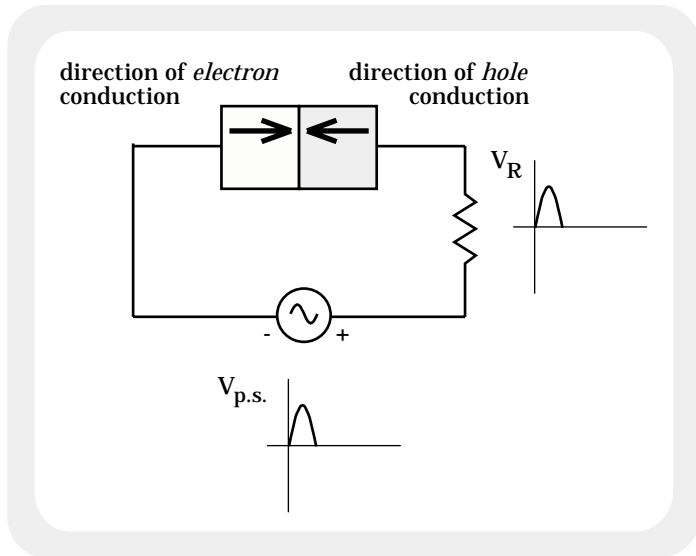

FIGURE 21.5a
a.) When the right terminal of the power supply is positive (see Figure 21.5a on the next page), the holes in the p-type semi-conductor move to the left and the electrons in the n-type semiconductor move
b.) As there is no appreciable voltage drop at the junction, the entire voltage drop in the circuit occurs across the resistor. As such, the voltage versus time graph for the power supply and the voltage versus time graph for the resistor look similar, as shown in Figure 21.5a.